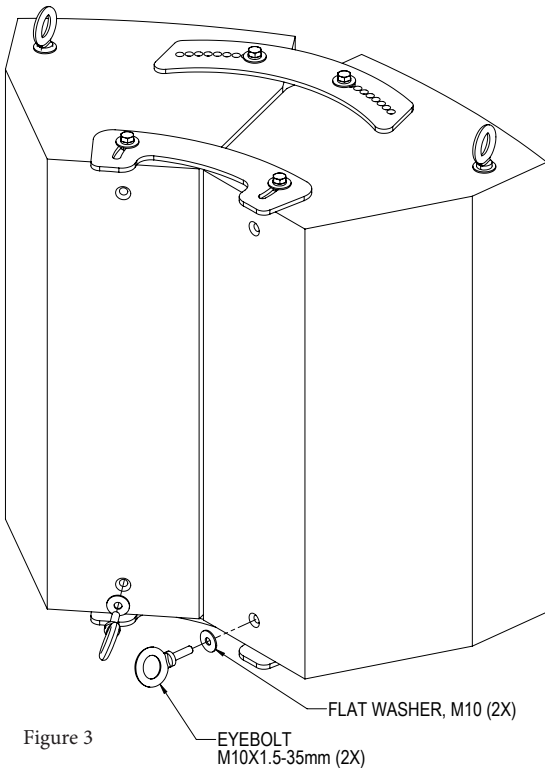

Figure 3
Step 8: Install two eyebolt on the bottom rear of the speaker for pull back attachment. Use two cables to bridle to a single point to attach the pull back cable (Figure 3)..